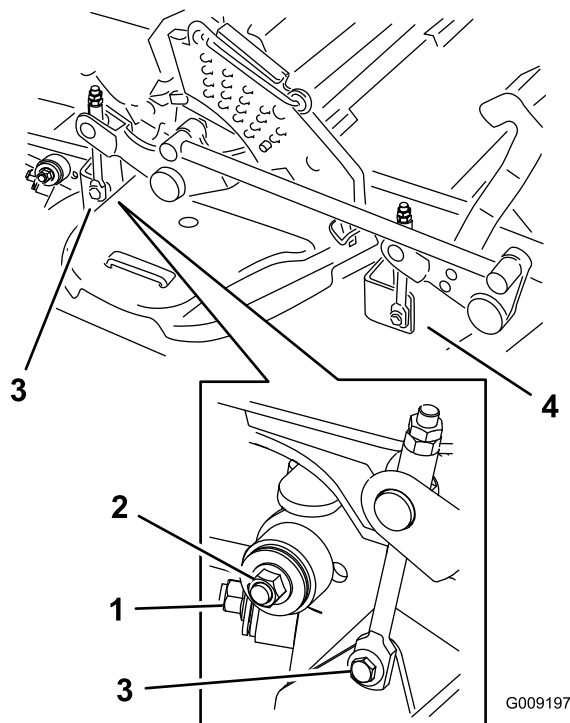

Figure 100
7. Remove and retain the hardware on both sides of the deck as shown in Figure 100.